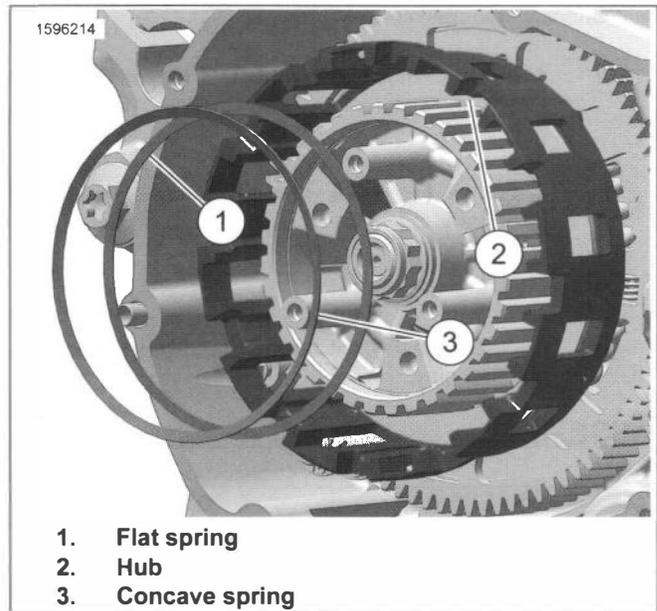

Figure 5-25. Judder Springs
5. See Figure 5-25. Remove the judder springs (1, 3).